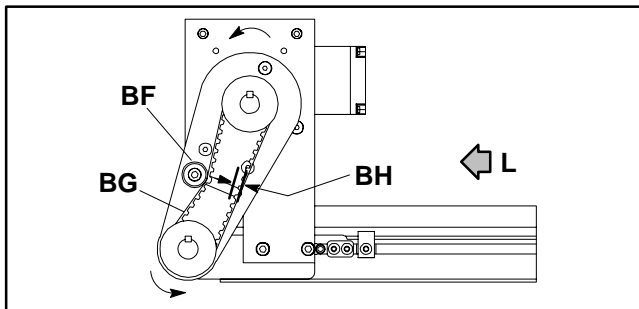
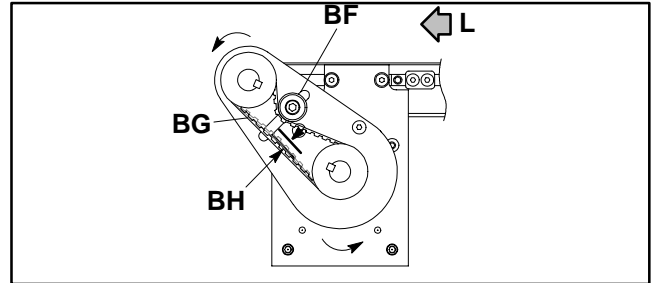

Figure 34
Figure 36
NOTE: The following information applies to both top (Figures 34 & 35) mounting and bottom mounting (Figures 36 & 37) packages. The position of the tensioning bearing assembly (BF) with respect to the timing belt (BG) is dictated by the direction of conveyor belt travel (L).